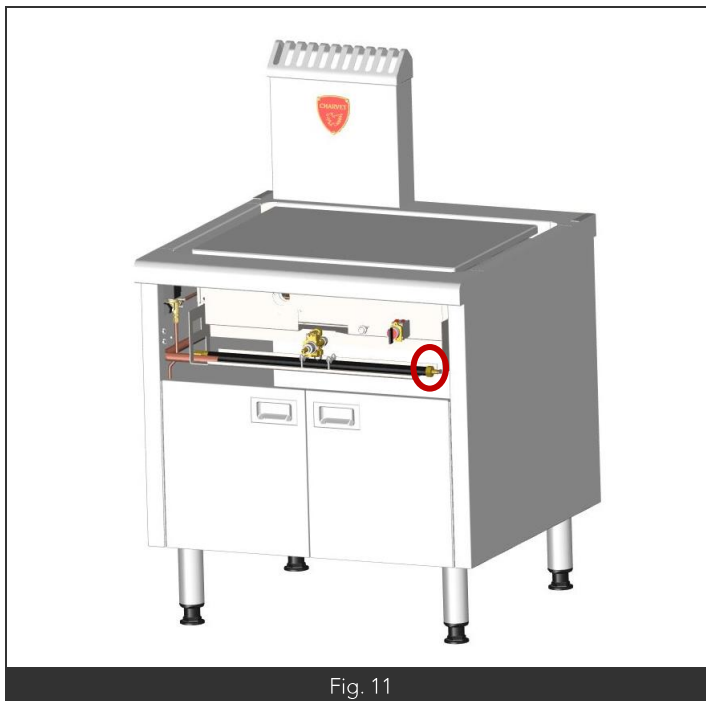

Fig. 11
- Unscrew the pressure screw (Fig. 11).